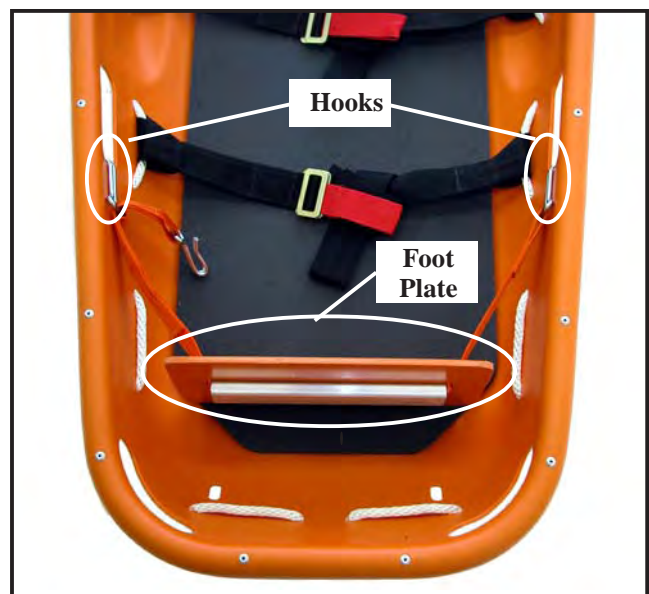

Figure 6 - Foot Plate Attached
2. Attach the other end of the strap to the handhold opening on the opposite side of the stretcher (Figure 6). Choose the hook that positions the foot plate closest to the patient's feet.
3. Center the foot plate on the strap, parallel with the end of the stretcher (Figure 6). The foot plate should press firmly against the bottom of the patient's feet. It may be necessary to reposition the patient slightly to achieve this.